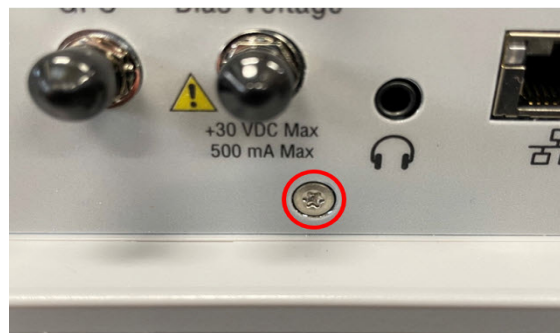

Figure 3-7. Top Panel Removal
4. Remove the Torx screw on the top connector panel using a T10 screw driver. See Figure 3-7.